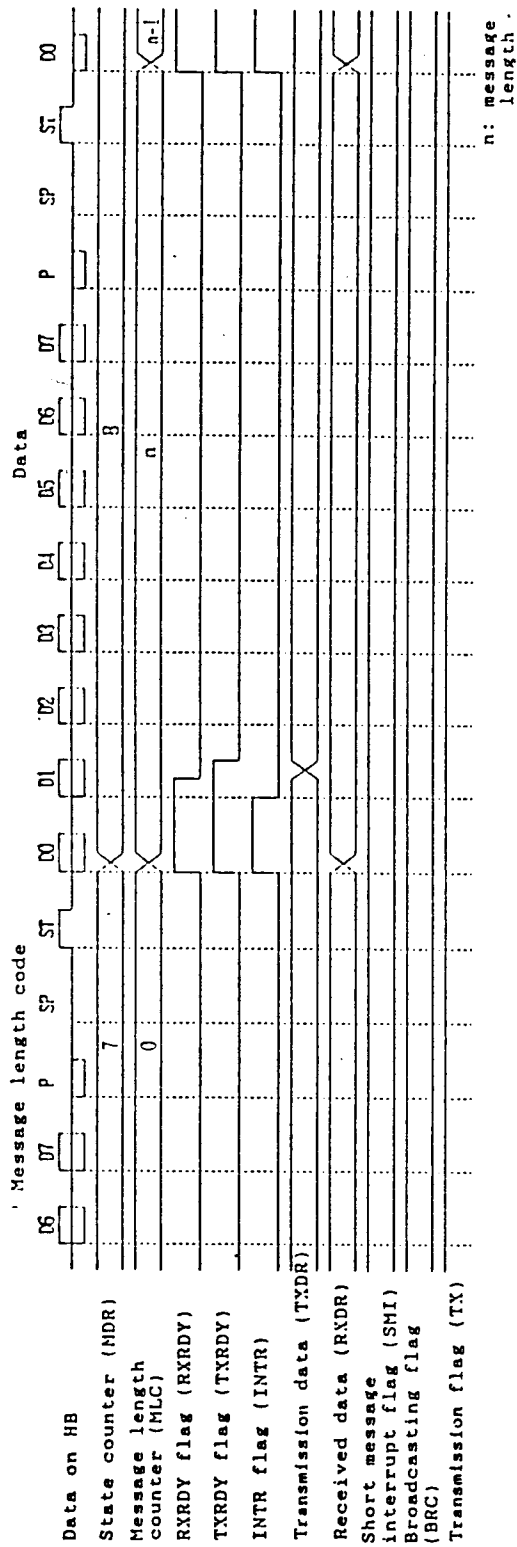
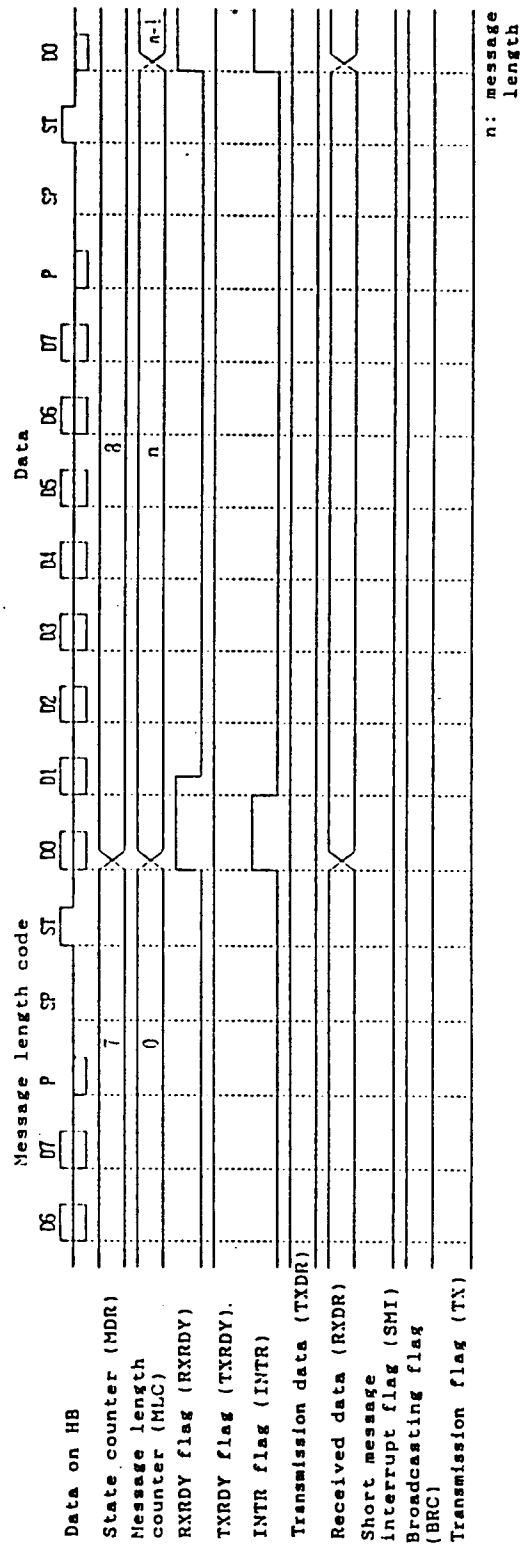

Figure 4.26 Middle of sending packet
Figure 4.27 Middle of received packet
Figure 4.26 follows Figures 4.23, 4.24, and 4.25 and shows the message length code through data. At the first character of data, the message length (n) is set in the message length counter (MLC).
Figure 4.27 shows the message length code through data upon receiving. Compared with Figure 4.26, TXRDY is 'H', transmission data has not been set, and the transmission flag (TX) is 'L', which are the differences.